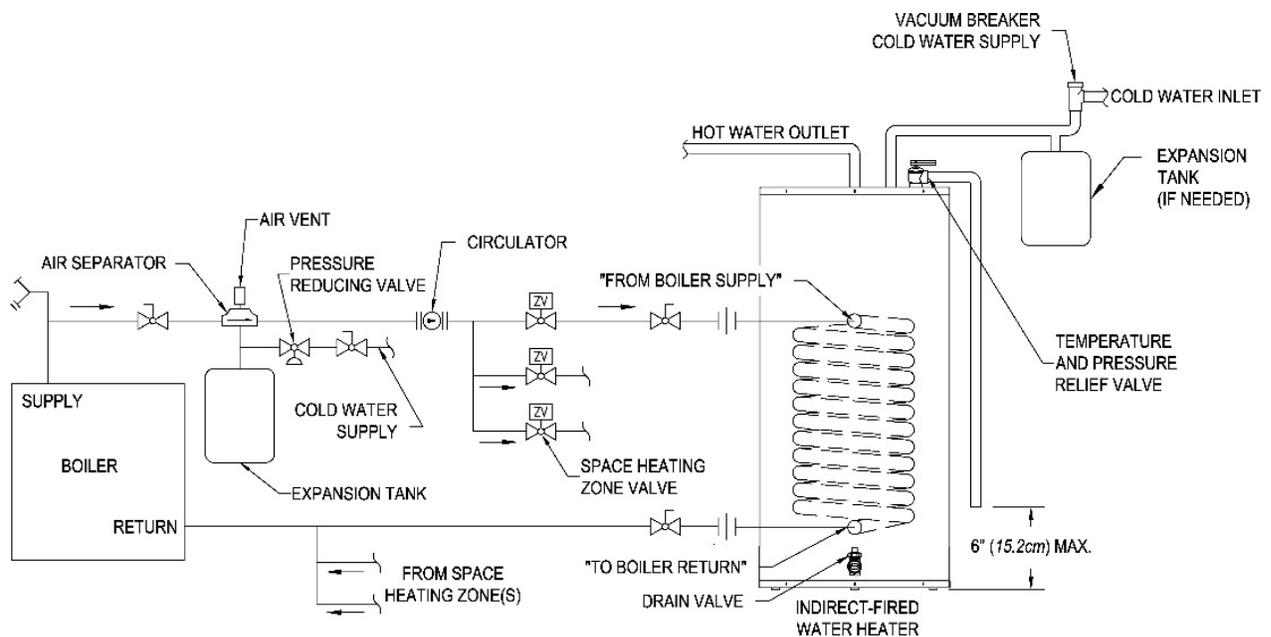

Figure 3 - Water Boiler Piping with Zone Valves
1. For a space heating system that utilizes ZONE VALVES, refer to Figure 3. The indirect-fired water heater connection labeled "FROM BOILER SUPPLY" should be piped to the boiler supply piping. Mount the circulator making sure the flow arrow points toward the water heater. The use of shut-off valves and unions are recommended for future service convenience. The use of an air separator and vent is recommended to eliminate air in the system. Pipe and fittings between the boiler and indirect-fired water heater must be $\frac{3}{4}$ " diameter or larger.